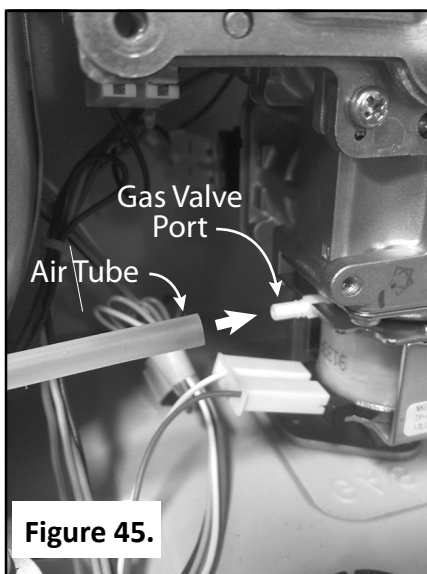

Figure 45.
- 8.5 Disconnect the air tube off the left side of the gas valve (Figure 45).